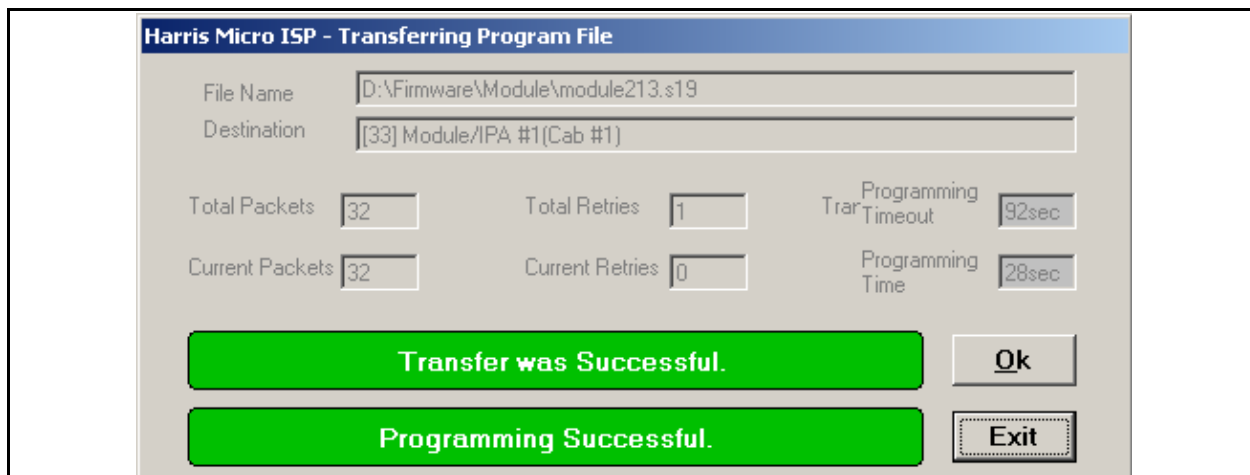

Figure 6-15 Programming Successful
STEP 12 The final screen is shown in Figure 6-15 which shows “Programming Successful”. Press OK to finish the update and then repeat the procedure to update the second PA Module, at address 34, for the CZ1000F.